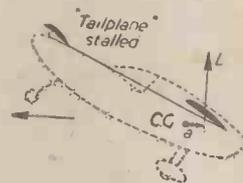

Fig. 1 Diagrams of a Canard type of aeroplane
Now let us consider the mechanics of the case. We find that in canard designs the "tailplane" is set at a higher angle of incidence than the wings, see Fig 1 (a), and thus is lifting or carrying part of the load in level flight. For stability in horizontal flight then:—
- a = moment arm of main wing, i.e. distance of C.P. of main wing to C.G. on Fig. 1 (a).
When the machine reaches such an altitude that the angle of attack of the tailplane is about 16 degrees, see Fig. 1 (b), the latter has reached its stalling angle and thus its lift, l , rapidly falls off. The main wing is still several degrees below stalling, however (actually $\alpha_T - \alpha_w$ degrees), and is thus lifting strongly. This means a powerful negative (diving) moment about the C. G. which brings the nose down. Thus while the tailplane can be stalled, the machine as a whole cannot, unless the manoeuvre is carried out with such violence that the inertia forces overcome the corrective force of the wings and momentarily cause the latter to stall as well. Such a stall is seldom likely to occur and, in any case, could be entirely prevented by fitting slots to the wing and thus increasing its range.